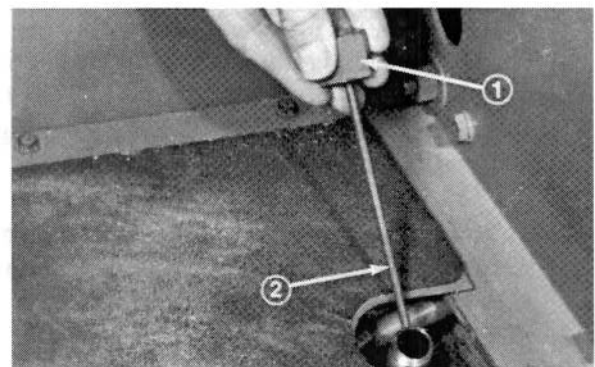

Figure 4
2. Unscrew the dipstick cap (Fig. 4) from the filler neck and wipe it with a clean rag. Screw the dipstick cap finger tight onto the filler neck. Unscrew the dipstick and check the level of oil. If the level is not within 1/2 inch (13 mm) from the groove in the dipstick (Fig. 4), add enough oil to raise the level to groove mark. **DO NOT OVERFILL** by more than 1/2 inch (13 mm) above groove.